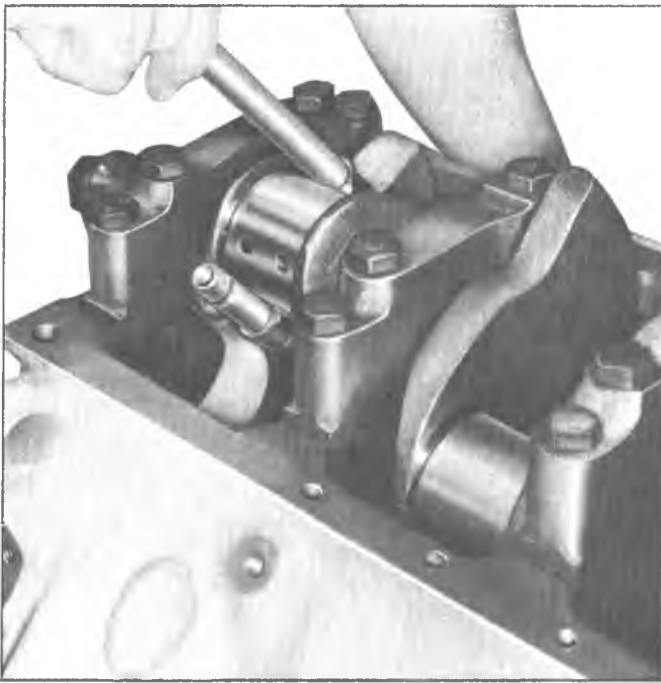

Fig. 47—Removing Connecting Rod and Piston Assemblies
3. Remove connecting rod cap and install Tool J-5239 (3/8") or J-6305 (11/32") on studs. Push connecting rod and piston assembly out of top of cylinder block (fig. 47).